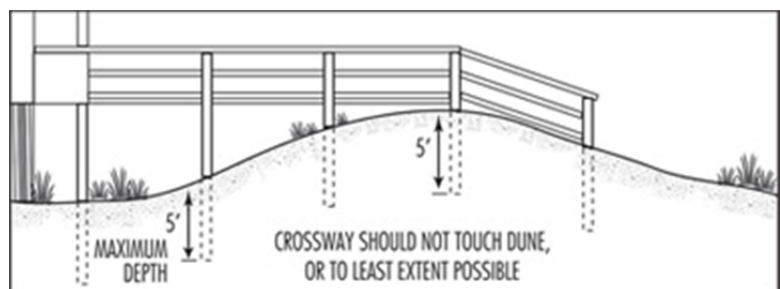

Figure 4.2
- Walkways won't be allowed if they weaken the dune's protection against flooding and erosion (see Figure 4.2).